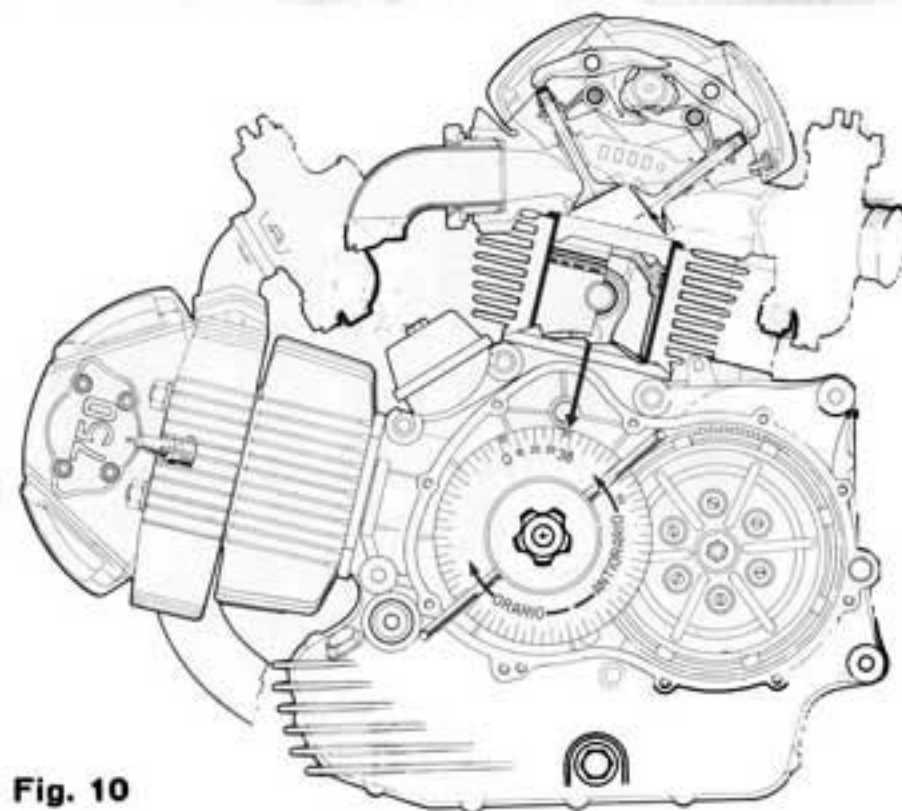

Fig. 10
- 5 - Rotate the engine slowly in the direction of its movement stopping it at $35^{\circ} \div 38^{\circ}$ of advance (reading it on the wheel), (see Fig. 10).